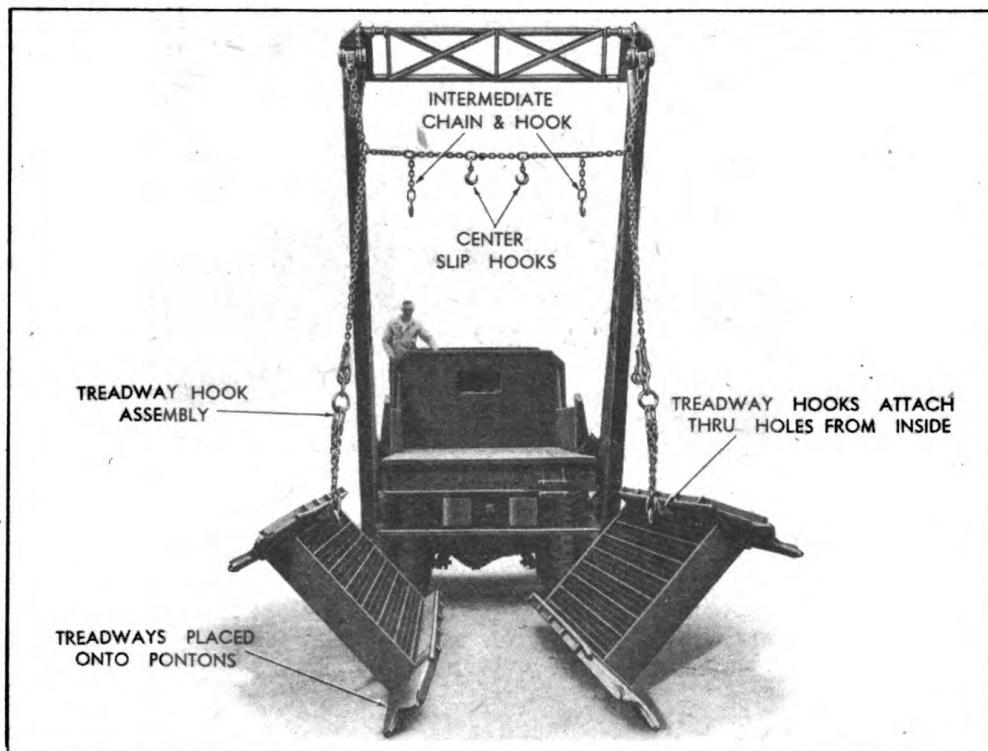

Figure 24. Method of Lowering Treadways onto Pontons
(1) To unload the bridge treadways directly to the saddles on the pontons, use the procedure described in Paragraph *b.*, pages 18 and 21, with the following exception. It is necessary to lower the treadways to a horizontal position by ATTACHING THE LOWER TREADWAY HOOKS TO THE INNER SIDES OF THE TREADWAYS as shown in Figure 24. This permits lowering the treadway slowly to the saddle, thus preventing any damage.
(2) For properly spacing the treadways on the pontons, repeat the operation described in Paragraph *C*, Pages 21 and 23.